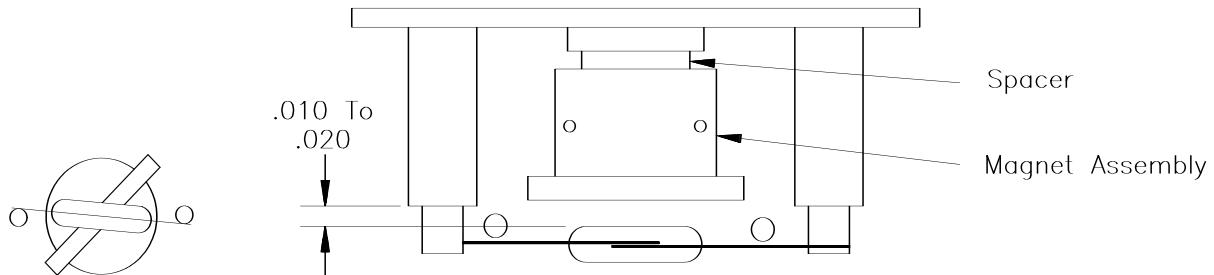

FIGURE A-1. Reed Switch Assembly
- E. Solder the new switch onto the sides of the switch mount terminals (form a loop in the relay leads to obtain proper lead length -- **DO NOT CUT THE RELAY LEADS.**) Measure the distance between the bottom of the rotating magnet and the top of the switch envelope, as shown in Figure A-1. The spacing should measure between 0.01 and 0.02 inches.